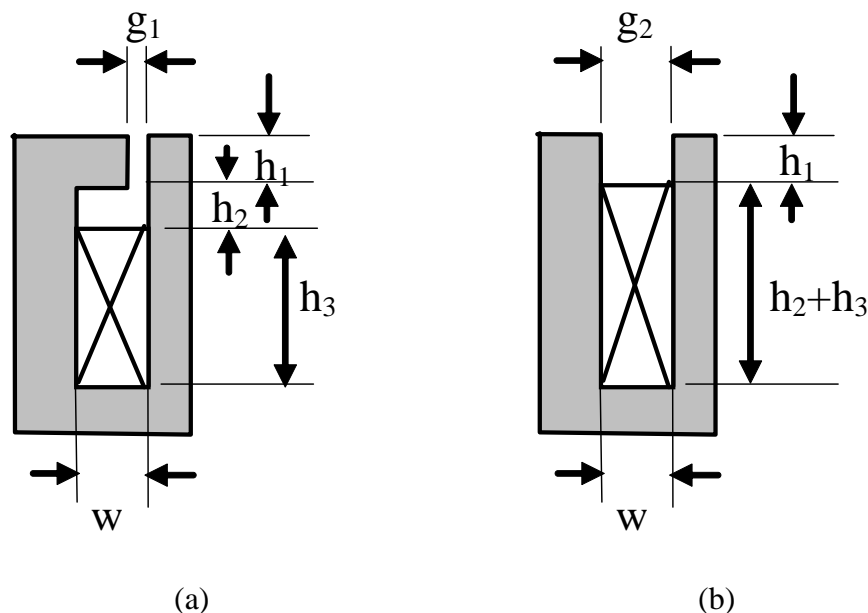

Figure A3 (6)
- Check whether the magnet will be demagnetised at three times the full-load torque. (6)
- Sketch the difference between reversible and irreversible demagnetizations. (3)
- Explain the influence of temperature on the irreversible demagnetization for both Ferrite and NdFeB permanent magnets. (2)
- Derive general expressions for the winding pitch-factor, K_p , and the distribution-factor, K_d , for both fundamental and n-th EMF harmonic components. (6)
- By employing coil vectors, determine the coil connections that yield a maximum winding factor for a 3-phase, 12-slot, 14-pole permanent magnet machine with double layer, concentrated windings. (4)
- Repeat A3.b for a 3-phase, 12-slot, 14-pole permanent magnet machine with single layer, concentrated windings. (3)
- Explain the main advantages and disadvantages of a single layer winding. (4)
- Describe the main differences between concentrated winding and distributed winding and explain their merits and disadvantages. (3)
- Derive an expression for the slot leakage inductance per-unit length, for a slot shown in Figure A3 (a) with N number of turns, specifying any assumptions which need to be made. Please note full marks will not be given if appropriate assumptions are not specified.
- For large wind power generators and hydroelectric generators, it is often preferred to employ open slots, as shown in Figure A3(b). Calculate the difference in winding slot-leakage inductances between Figures A3(a) and 3(b). (4)
- State the advantages and disadvantages of the slot configurations shown in Figures A3(a) and 3(b). (6)
- List possible ways to increase winding inductances and state their limitations. (4)